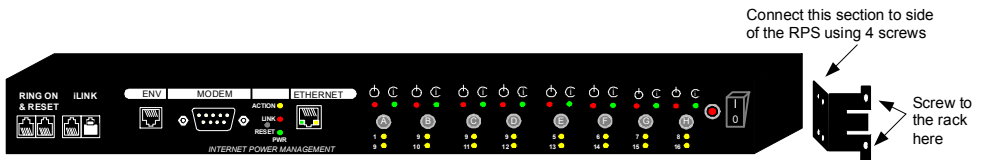

Figure 4 Connecting the mounting brackets
2. Connect the mounting brackets to the unit, using the screws provided. See Figure 4